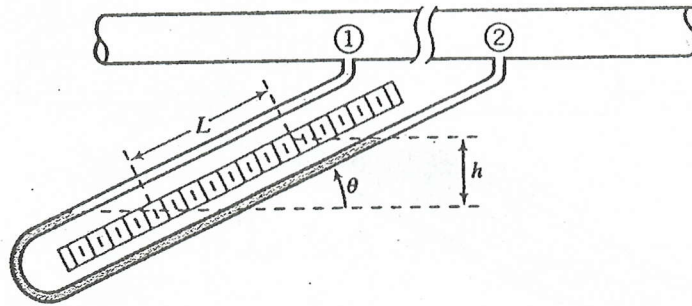

Figure Q.3
3. [a] An inclined manometer shown in Figure Q.3 is a useful device for measuring small pressure differences.